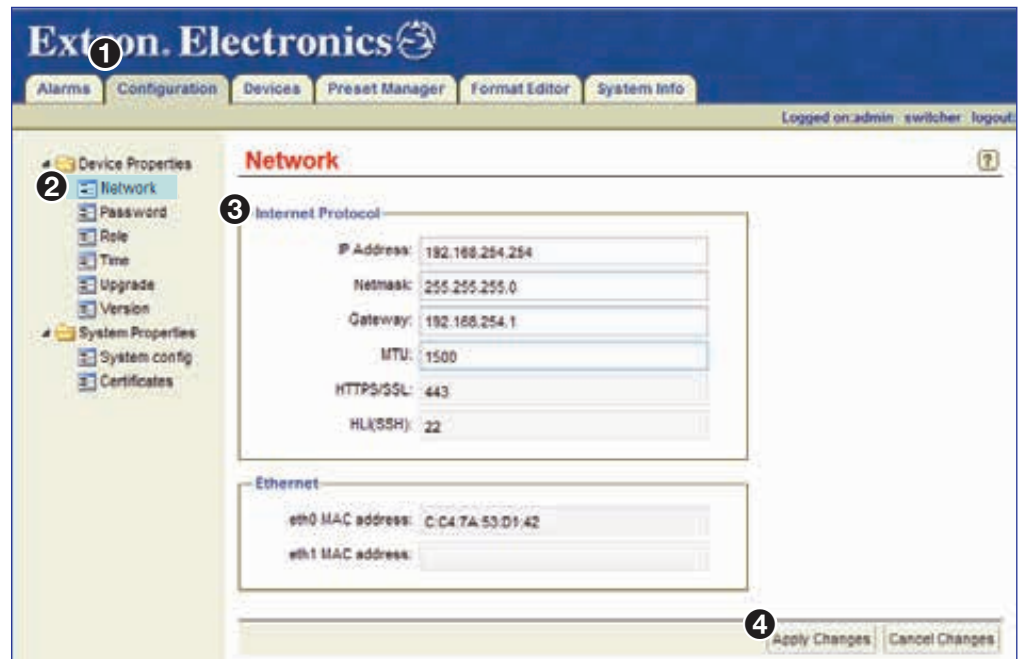

Figure 9. Configuration Page — Configuring the Network Settings
2. Click the **Configuration** tab (see figure 9, ❶).